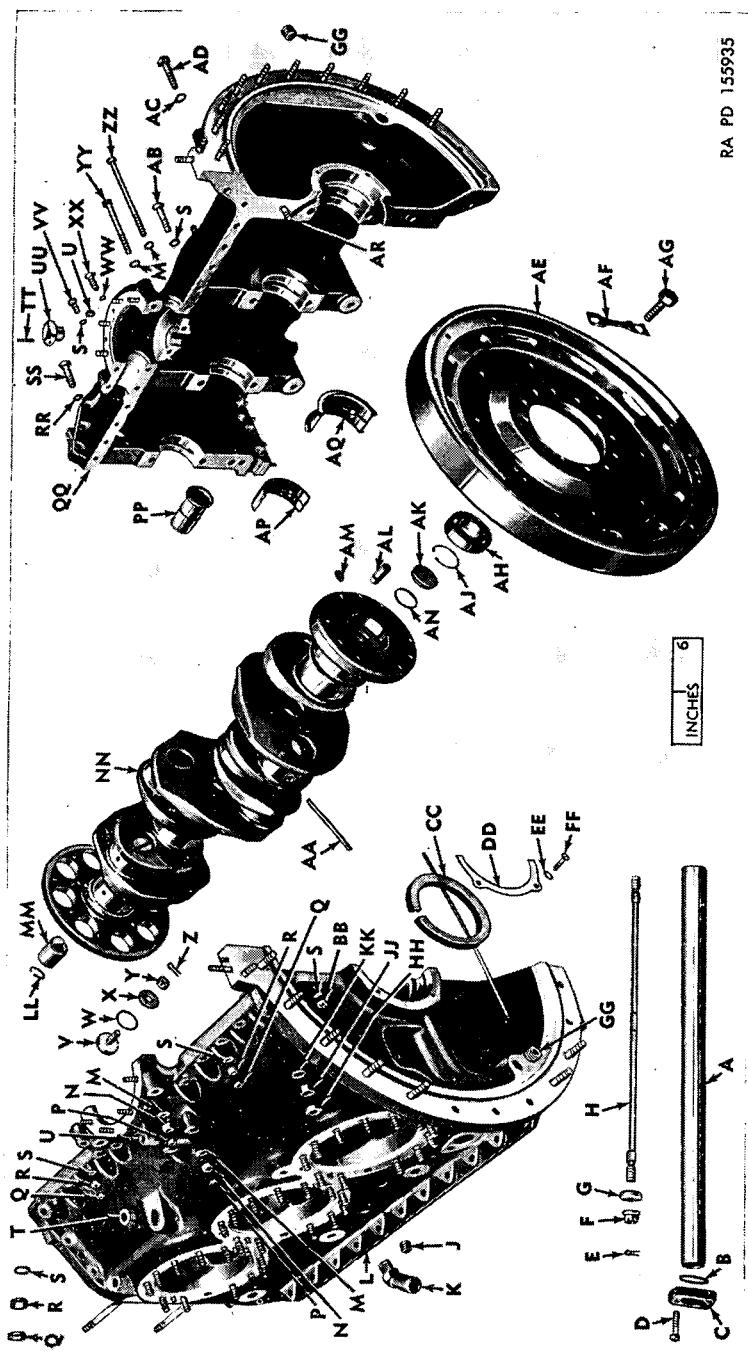

Figure 65. Crankcase, crankshaft, and flywheel—exploded view.
(fig. 65)
- a.* Remove the spring around the crankshaft oil seal with spring assembly (CC, fig. 65) and discard the seal.